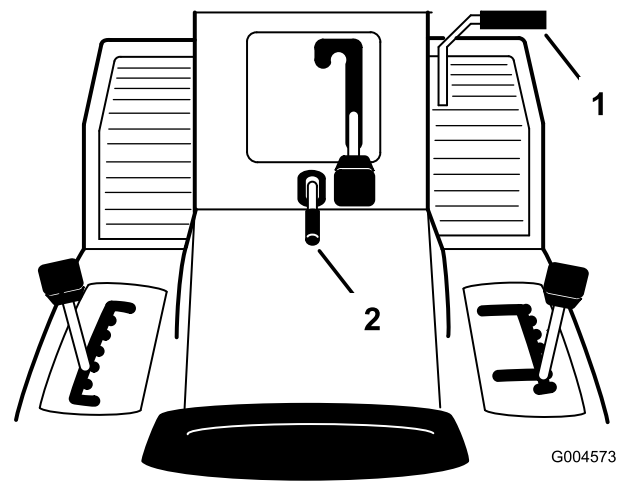

Figure 6
1. Push the clutch/brake pedal (Figure 6) down and hold it.
2. Lift the parking brake lever (Figure 6) up and gradually take your foot off the clutch/brake pedal.
1. Push down on the clutch/brake pedal (Figure 6).